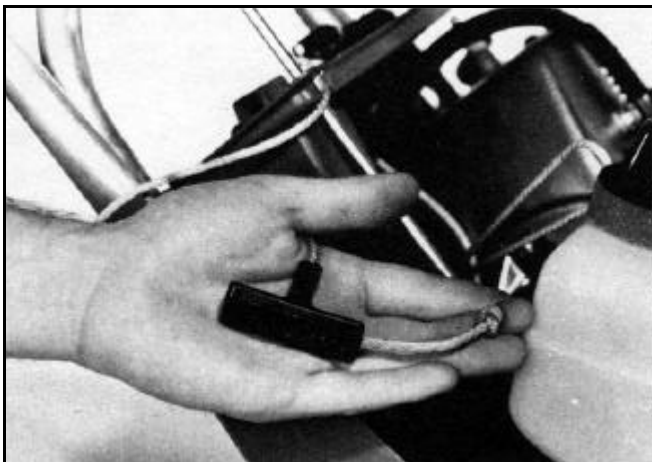

Figure 42 0217-025
8. Pull the recoil starter rope through the hole in the control panel (Figure 42). Next, slide the rope onto and through the starter handle and make a small knot. Slide the starter rope back into the starter handle. Remove the knot in the starter rope at the starter housing and allow the starter rope to retract into the starter.